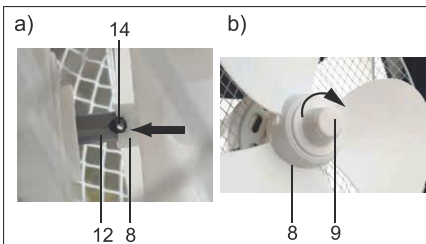

Fig. 15: Mounting rotor
6. Push the rotor (8) onto the motor axle (12). *The small transverse axis (14) at the end of the motor axis must lie in the recess of the rotor attachment. See Fig. 15 a).*
7. Place the nut (9) on the rotor.
8. Tighten the nut clockwise. See Fig. 15 b).